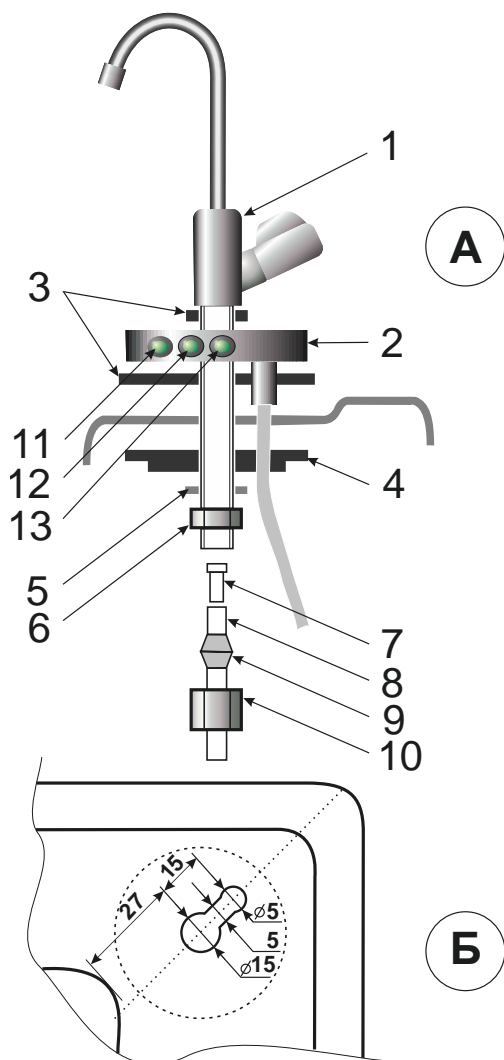

Fig.4. Tap installation.
Perform activities specified in it.9.1 and 9.2. Then close clean water tap (Fig.4, pos.7). Then remove retaining ring and take out the blind (Fig.3, pos.14). Attach a hose instead of it (Fig.1, pos.8) to drain water from mineralizer and direct it into reservoir with 1 liter volume. Perform activities specified in it. 9.3. Holding mineralizer casing (Fig.3, pos.13) unscrew the cover (Fig.3, pos.12). Wait until all water (if any) will pour out of the casing. Then disconnect hose, insert blind and retaining ring.